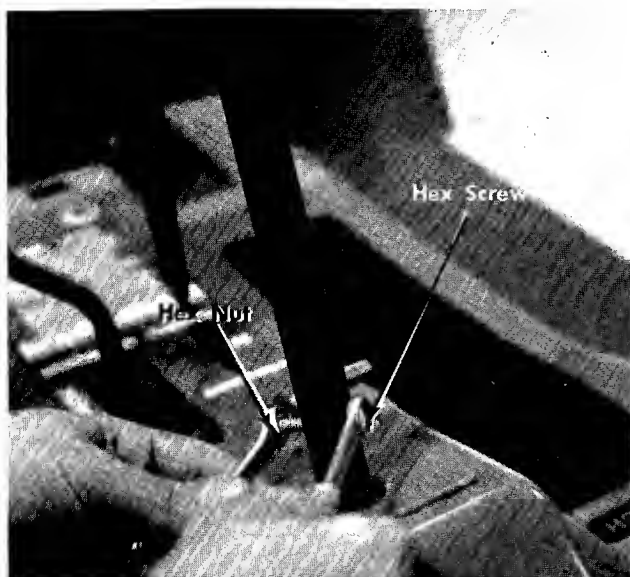

FIGURE 2. STEERING TUBE ASSEMBLY
3. Hold up the shaft assembly. Place the steering tube assembly on the shaft and start the hex screw through the hole. See figure 2.